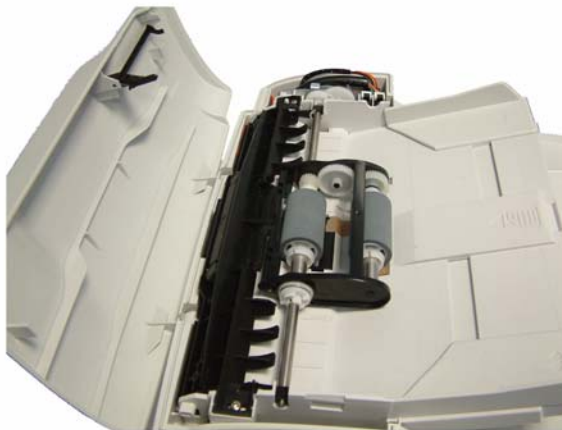

Figure 1
1. Open the ADF cover, Figure 1.